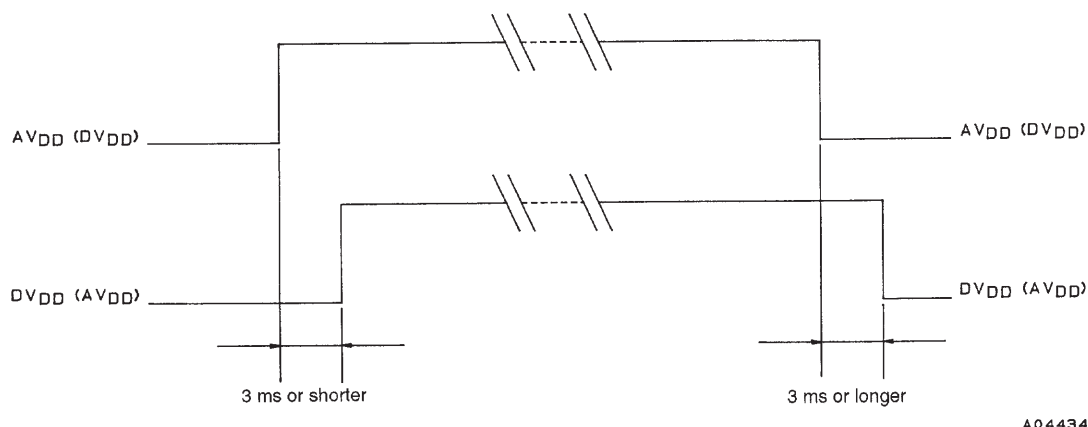

Figure 1
- The power supply power up (and power down) time differences must be under 3 ms. (See Figure 1.)